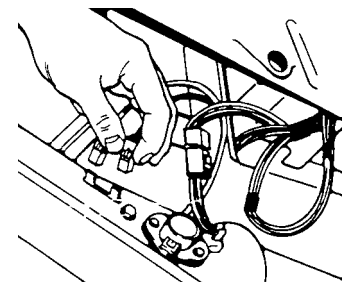

Fig. 30
2. Remove the screw securing the thermal fuse to the blower housing and remove the thermal fuse. (Fig. 30)